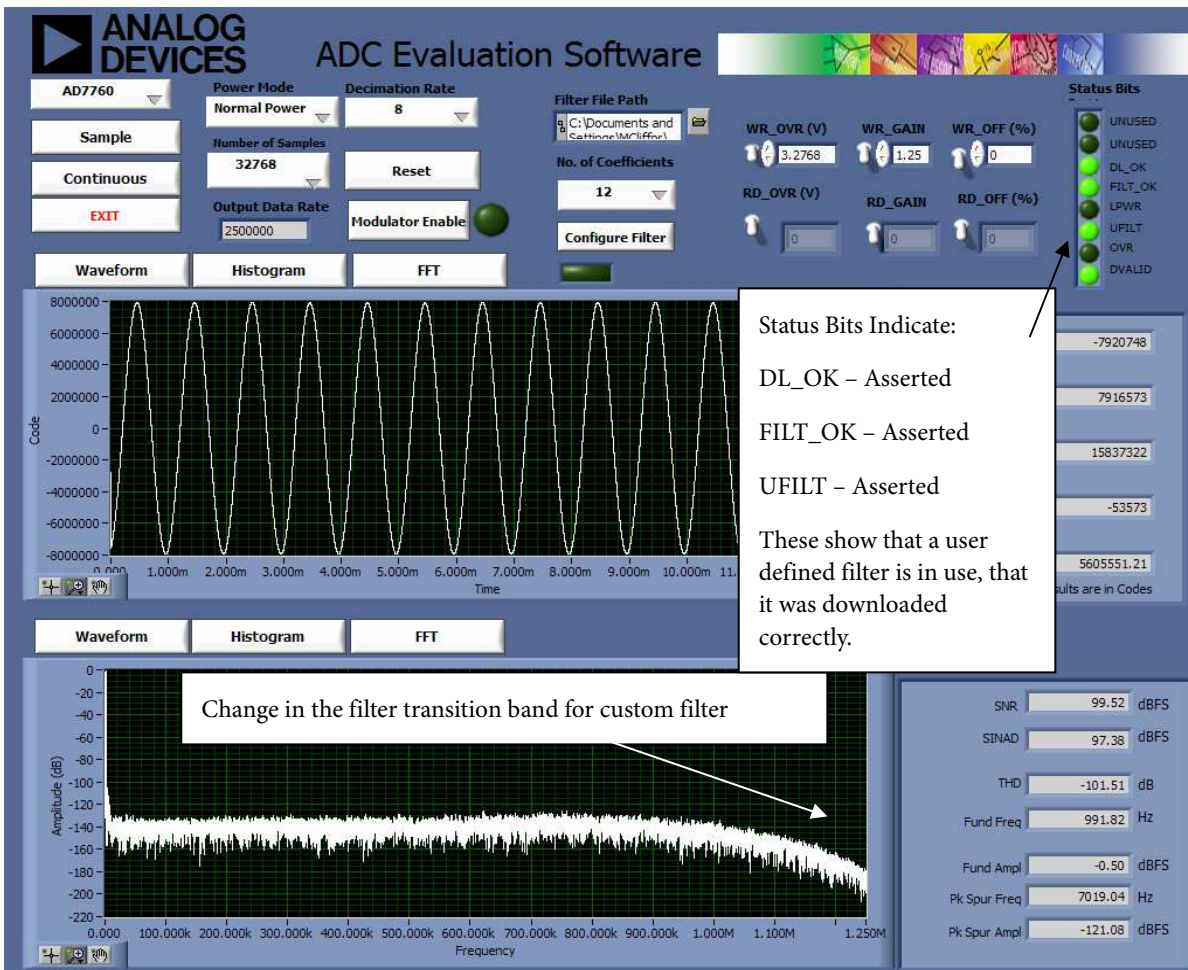

Figure 15. User-defined filter example – implemented on evaluation board. See indicators illuminated, and custom filter transition band.
- The filter example used in the AD7760/2 datasheet will show a slower transition band. The FFT of this filter implementation is shown in Figure 15. As highlighted, the status bits output by the ADC will show if the filter file has been downloaded correctly. The indicators for the DL\_OK, FILT\_OK and UFILT are all asserted to show a successful filter download.